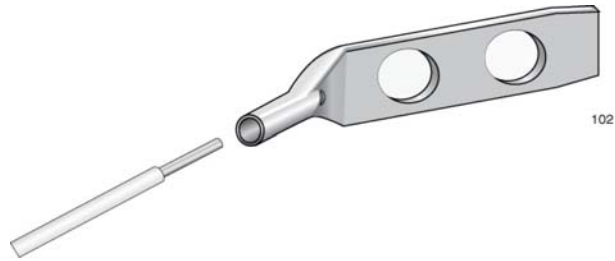

Figure 53. Attaching the Grounding Wire to the Grounding Lug
3. Insert one end of the grounding wire into the grounding lug, as shown in Figure 53, and use a crimping tool to secure the wire to the grounding lug.